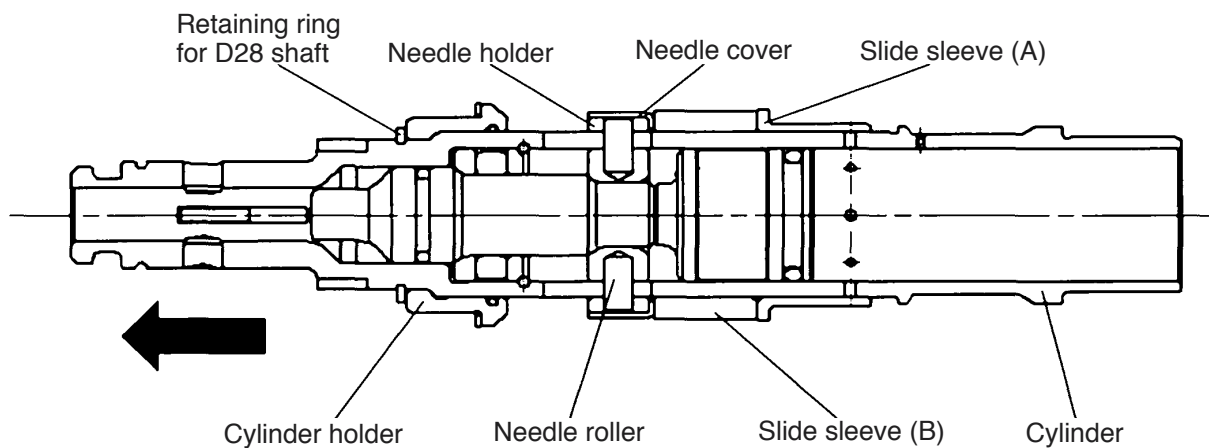

Fig. 12
The Cylinder [24] can be removed from the Cylinder Case [9] by pushing the Cylinder [24]. Remove the Retaining Ring for D28 Shaft [13] from the Cylinder [24] by means of a snap ring remover, then the Cylinder Holder [15] can be removed from the Cylinder [24]. Remove the four Needle Rollers [18] then remove the Needle Holder [17], Needle Cover [19], Slide Sleeve (B) [20] and Slide Sleeve (A) [21] (Fig. 12).